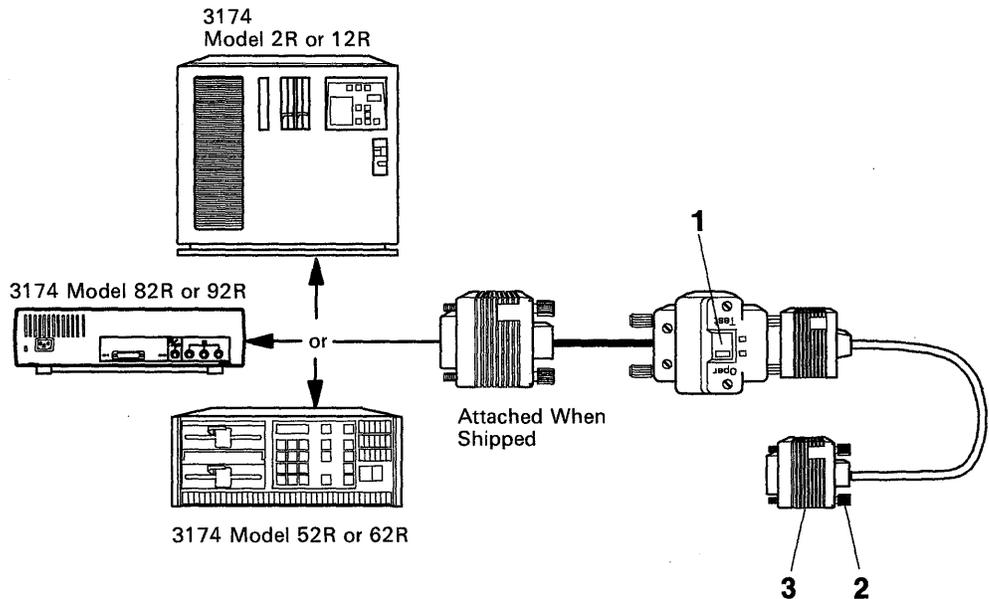

Figure 4-23. An X.21 Cable Connection
1. Set the TEST/OPER switch **1** to the OPER position. (See Figure 4-23.)